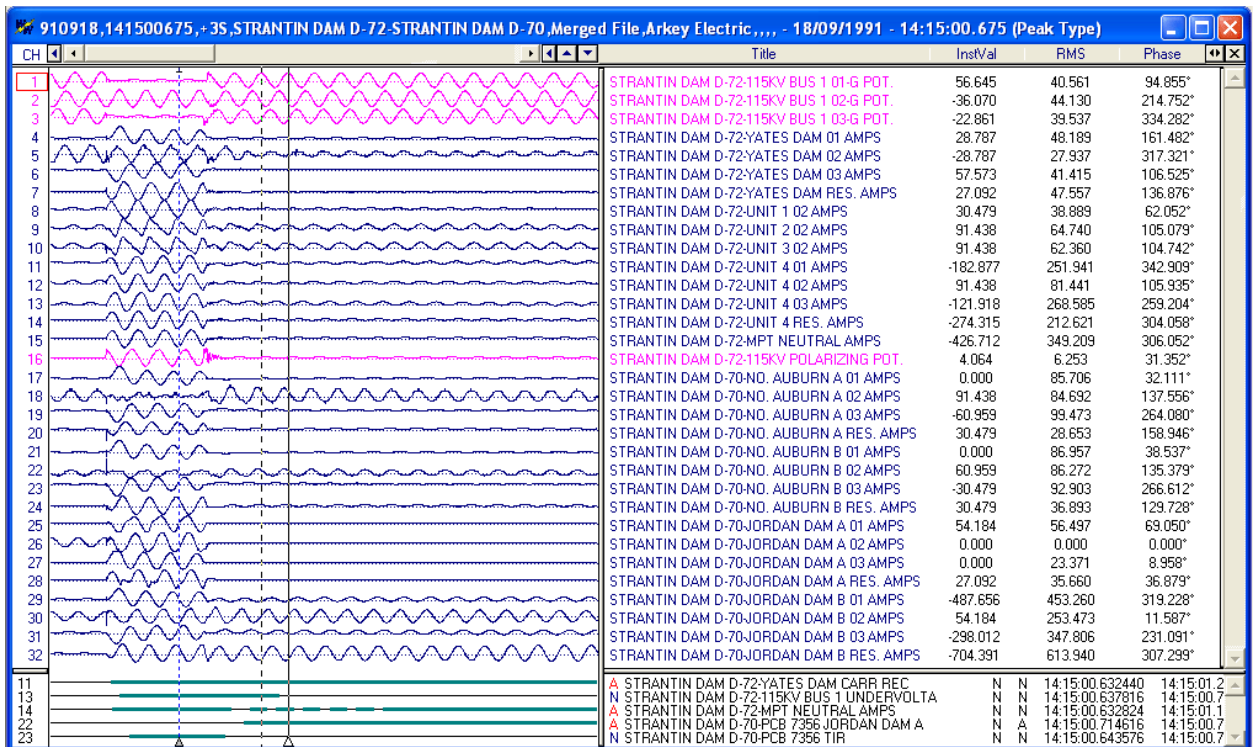

Figure 1.35 Merge Waveform Files By Time
- By Time: Merge channel samples if they have a common time segment. The reference time is from the file with the latest start date and time. The file with the least amount of samples determines the length of the new merged file. Refer to Figure 1.35.